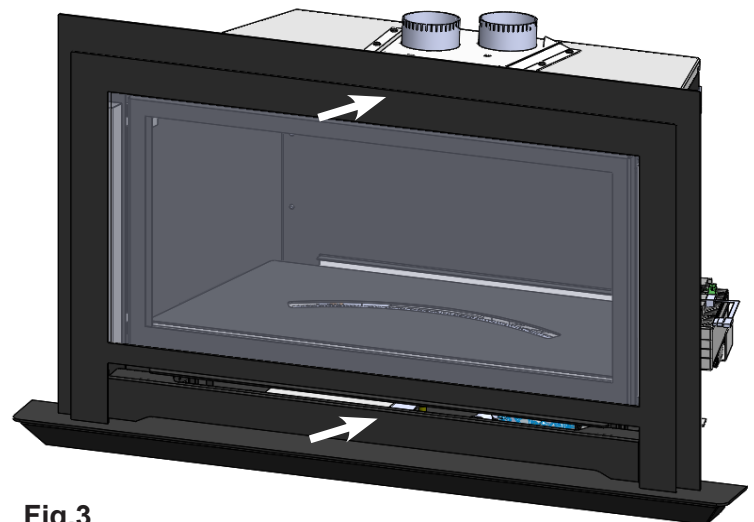

Fig.3
3. Reinstall Screen Shroud assembly. **(Fig.3)**